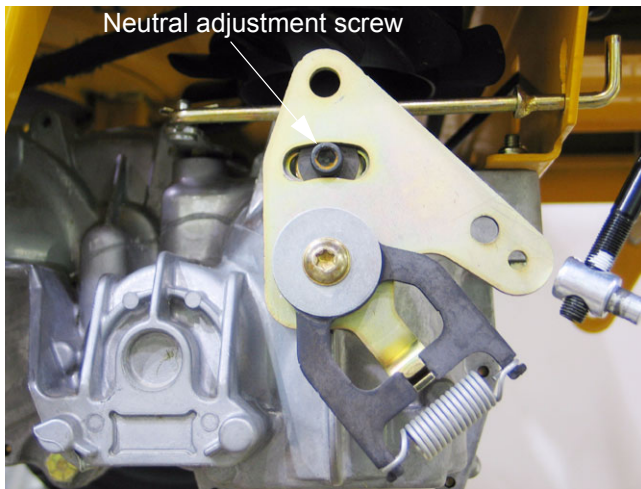

Figure 7.5
- 7.5. To adjust the neutral return assembly, loosen the socket head cap screw that holds the centering bracket in position on the housing using a 1/4" allen wrench. See Figure 7.5.